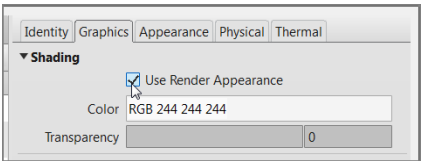

FIGURE 9.72: Mapping out the rendering and the shading appearance
- 3. In the Material Editor, click Use Render Appearance under Shading, as shown in Figure 9.72. Click done, and then click OK.